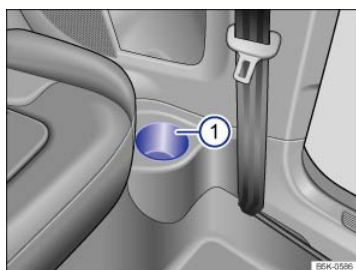

Fig. 131 In the trim next to the rear seats (2-door models only): Cup holder.
Some 2-door vehicles are equipped with open cup holders in the trim next to the rear seats ⇒ Fig. 131 ①.